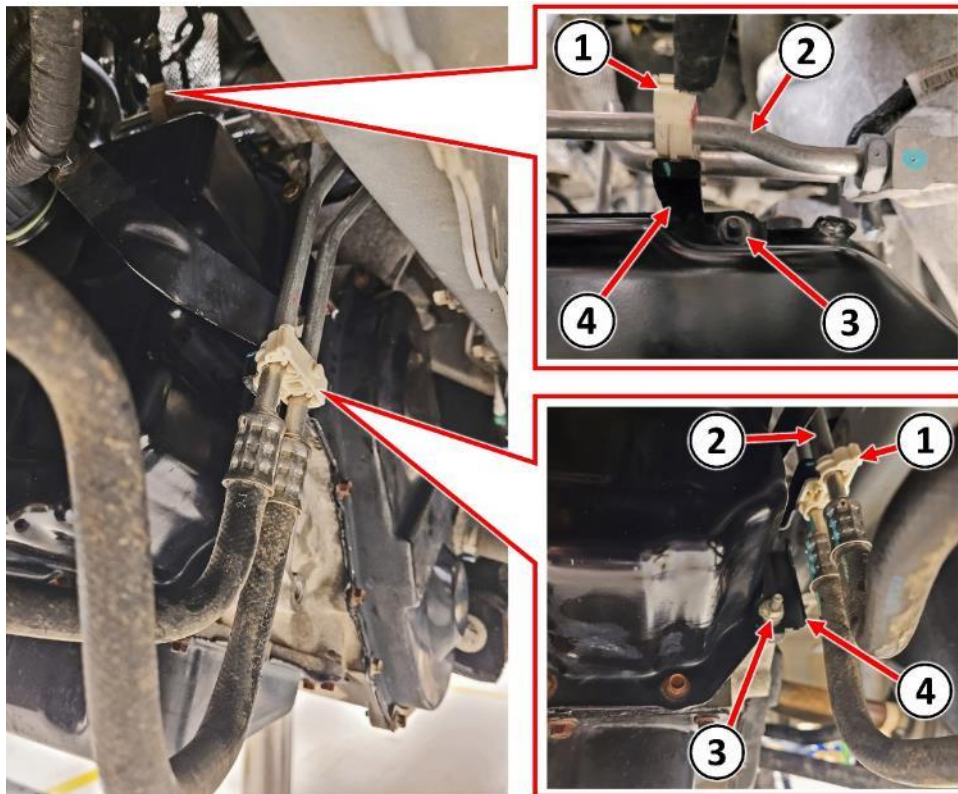

Figure 8 – Cooler Tube Retainers
14. Release transmission cooler tubes (2) from the two plastic retainers (1) then remove the nuts (3) securing the two cooler tube brackets (4) to the transmission. Remove the retainers with brackets from the transmission (Figure 8). Do **NOT** disconnect the transmission cooler tubes from the transmission or oil cooler.